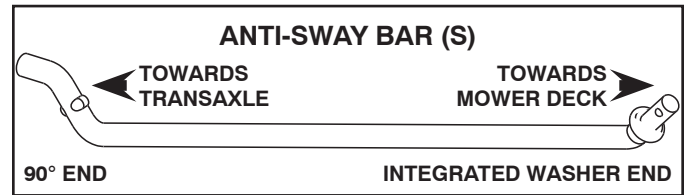

Fig. 30
5. INSTALL ANTI-SWAY BAR (S) (IF EQUIPPED) (See Fig. 30 - 32)